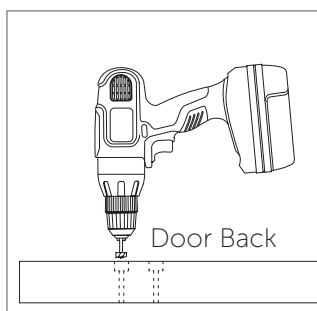

Figure 4
7. Turn the door over. Using a 1-1/8" Forstner bit\*, drill a 7/16" deep hole into each pilot hole (Figure 4).
6. Attach one end of the track to the wall with one standard stop, one lag screw, and one washer, using a socket wrench with 9/16" socket (Figure 4). Do not tighten.